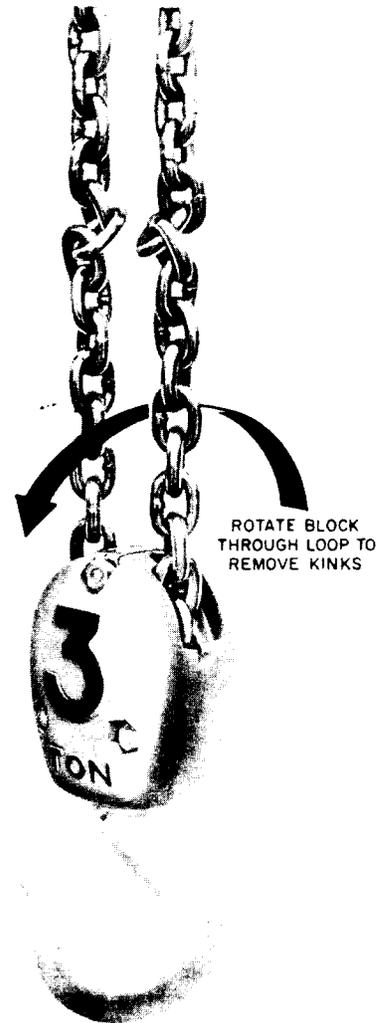

Fig. 2 — Removing Kinks From 3-ton Hoist Chain
3.15 Be sure there are no kinks in the chain when using a hoist. In a 3-ton hoist this will occur if the block and load hook is rotated through the loop of chain between the housing and the block. To remove the kinks, rotate the block and load hook through the loop of chain in the opposite direction (Fig. 2).